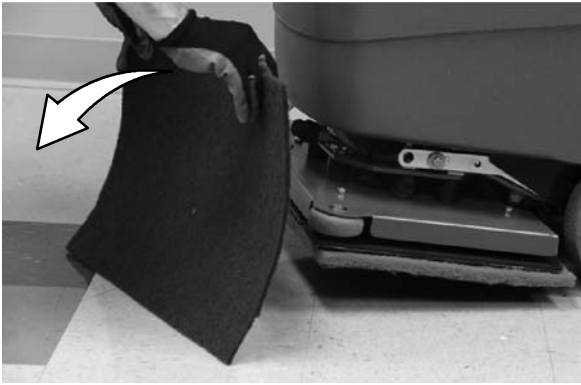

FIG. 42
6. Turn the work pad over or replace when worn (Figure 42).